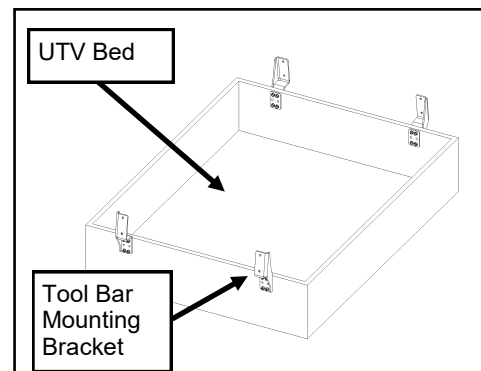

Fig. 1
1. See fig. 1. Install (4) Tool Bar mounting brackets using the installation instructions included with the 1UTVTB kit.